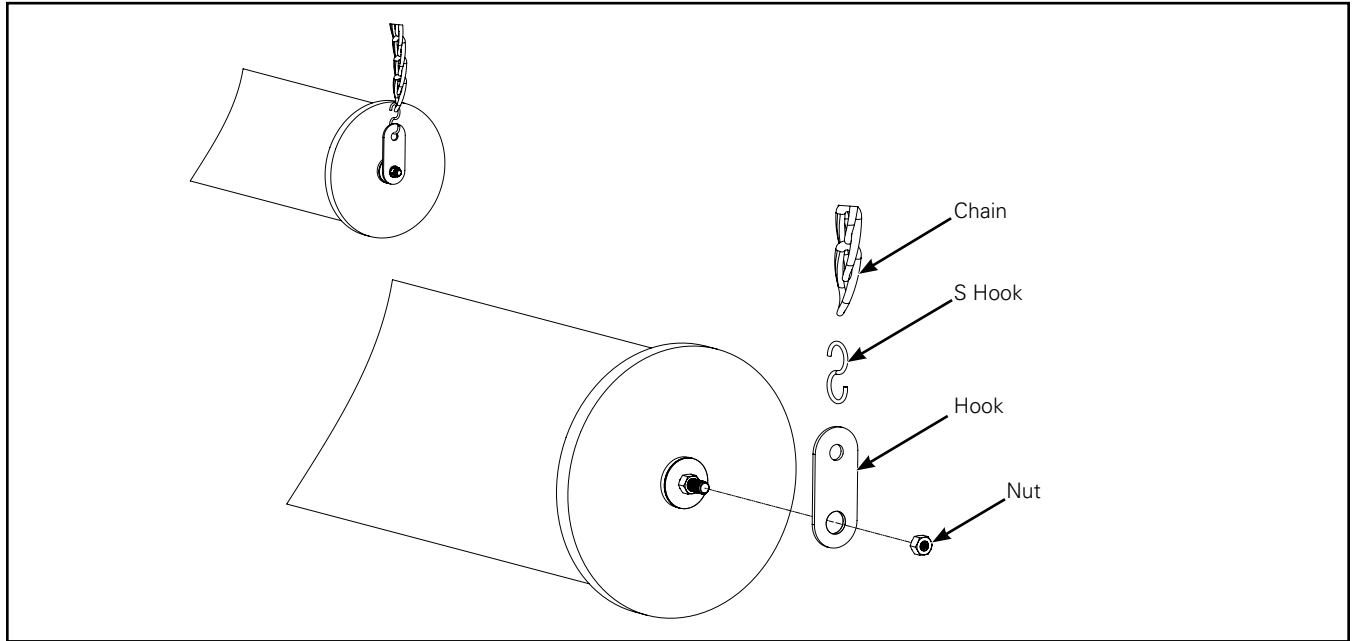

Figure 5. Exploded View S Hook and Chain
Step 2: Tighten the Nut, and place the S Hook into the Hole as shown in the Figure 5.